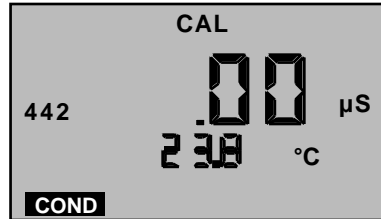

Figure 5
c. Press **COND** or **TDS**, then press **CAL/MCLR**, “**CAL**” icon will appear on the display (see Figure 5).